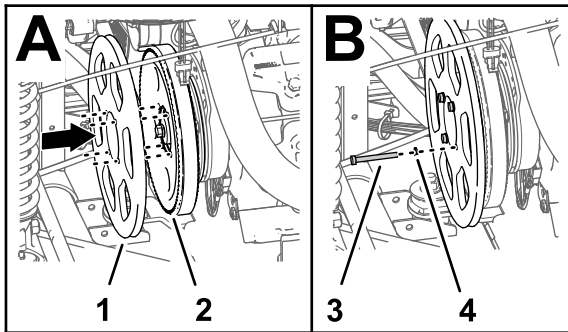

Figure 226
4. Align the holes in the pulley for the alternator (kit) with the holes in the pulley for the sprayer pump (Figure 226).